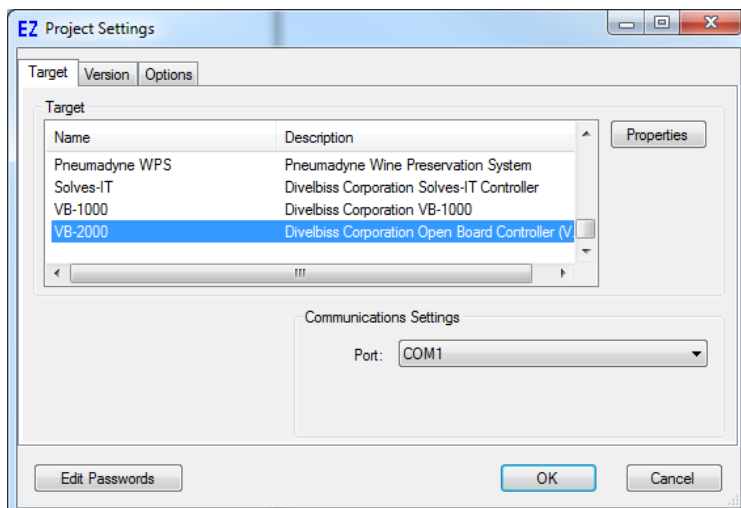

Figure 1-3 - Project Settings Window
- In EZ LADDER, from the File Menu at the top, click **PROJECT** then **SETTINGS**. This will open the Project Settings Window. Select **VB-2000** as the target from the choices. Refer to Figure 1-3.